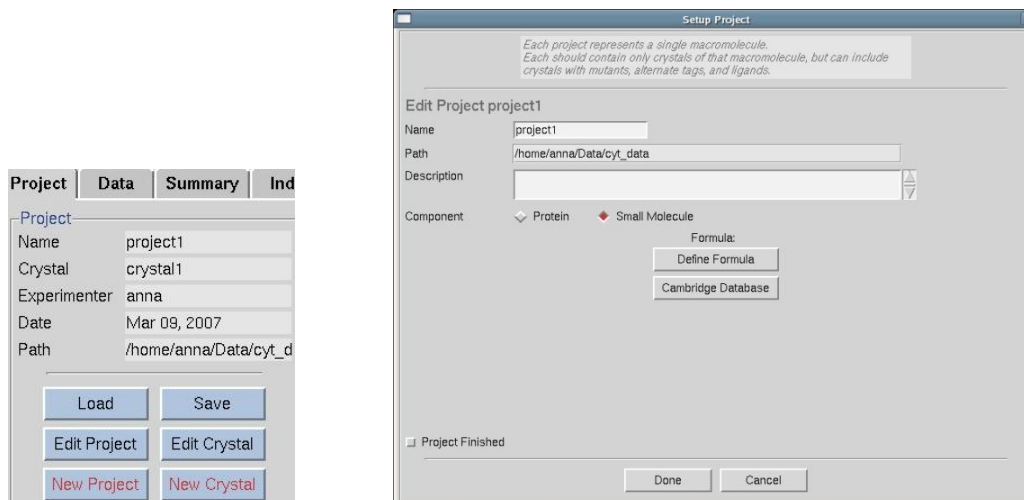
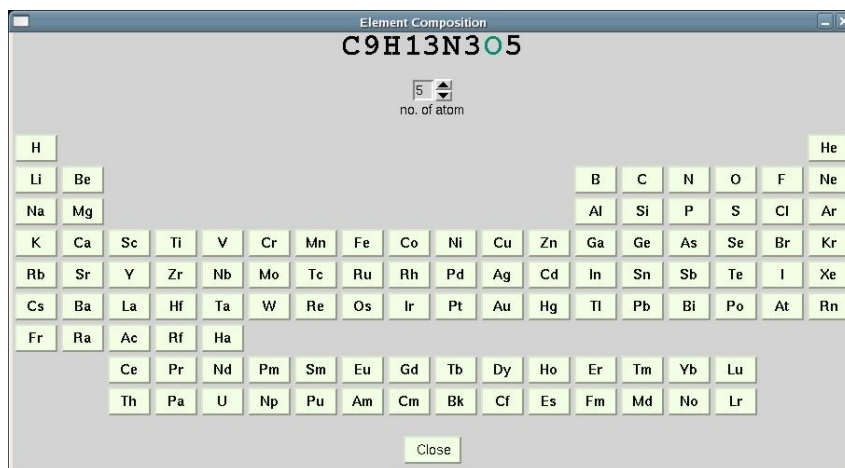
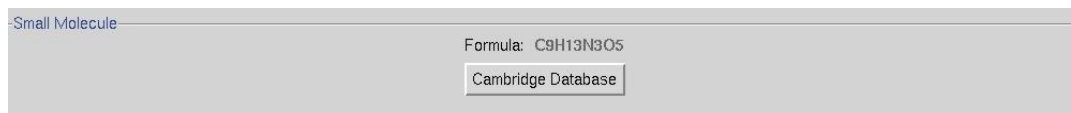
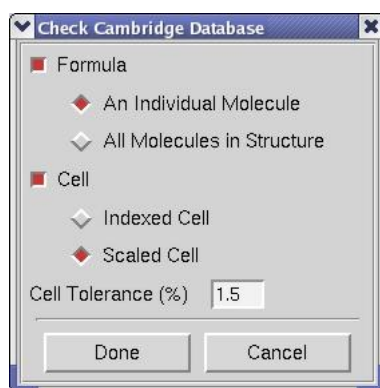

Figure 1. Edit and Setup Project windows
Figure 2. The periodic table that is used to define element composition
Figure 3. A button that opens the CSD window
Figure 4. The Check Cambridge Database window
Structure solution and refinement of organic and inorganic molecules and peptides can be performed in the *HKL-3000SM* command center. This part of *HKL-3000* is integrated with *SHELXS* and *SHELXL* from the *SHELX-97* package, written by Prof. George Sheldrick. These programs can be acquired directly from the author at <http://shelx.uni-ac.gwdg.de/SHELX/>. The structure solution process can be simplified if the chemical composition of the molecule under study is known. Exact knowledge of the chemical composition is not necessary, but a precise definition of the chemical composition will make all subsequent steps straightforward. The chemical content can be entered in the **Project** panel. In the **Project** box click the **EDIT PROJECT** button (Figure 1). A new window, **Setup Project**, will appear. Click the **DEFINE FORMULA** button and the periodic table of elements will appear (Figure 2). To build the formula of the compound, click on the symbol for each element present in the compound and change the number of atoms using the arrows or by typing directly into the box. Close the **Element Composition** box, click **DONE** in the **Setup Project** window to close it, and, if your data are already collected and reduced, you can go to the **Structure** tab.
Search databases! Over 390,000 carbon-containing structures analyzed with X-ray or neutron diffraction methods are provided by the Cambridge Structural Database (CSD). If you have a license to access the CSD, click the **CAMBRIDGE DATABASE** button in the right lower corner of the **Index** panel, you can check the indexed pre-scaled unit cell parameters, or check the parameters of the unit cell after scaling your data. In the latter case find the **CAMBRIDGE DATABASE** button under the **Project** tab and click on it (Figure 3). You will also find the **CAMBRIDGE DATABASE** button in the **Setup Project** window (Figure 1). A new window (Figure 4) entitled **Check Cambridge Database** will open. In this window you will see what parameters will be taken under consideration while searching through the CSD. By default, the formula you defined is treated as the formula of an individual molecule (if your compound consists of more than one type of ion or molecule, you should select **All Molecules in Structure** to find a result). Other defaults are: **tolerance** of 1.5% (expressed as a percentage of the longest cell dimension), searching on the **reduced cell** and choice of the **primitive (P)** lattice type. The **tolerance** value is changeable in the **Check Cambridge Database** window and other parameters can be changed after opening the **Build Queries** tab in **CCDC ConQuest** window. The results, sorted by identifiers called **refcodes**, are shown in the **View Results** window. You can toggle between the **Author/Journal**, **Chemical**, **Crystal**, **Experimental**, **Diagram**, **3D Visualizer** and **CSD Internals** tabs to find out if the structure has previously been solved. For more details see the CCDC web page at <http://www.ccdc.cam.ac.uk/>.